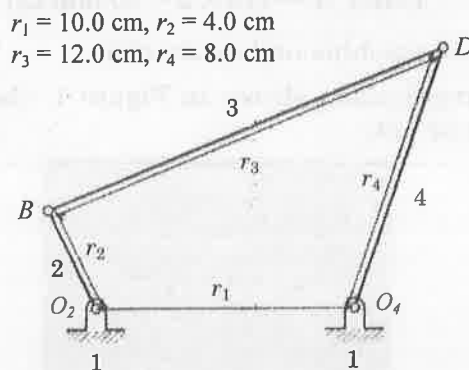

Figure 3
- (b) (i) For the four-bar mechanism shown in Figure 3, determine the maximum and minimum transmission angles. (8)